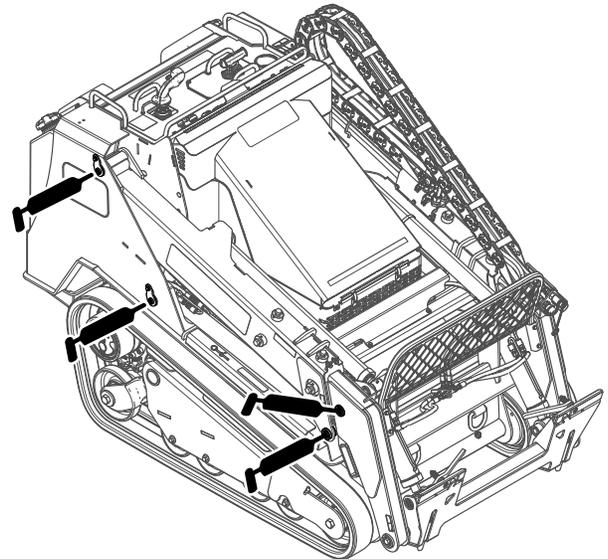
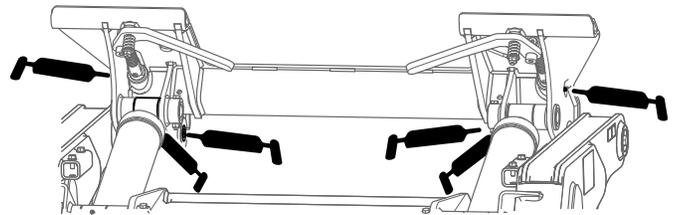
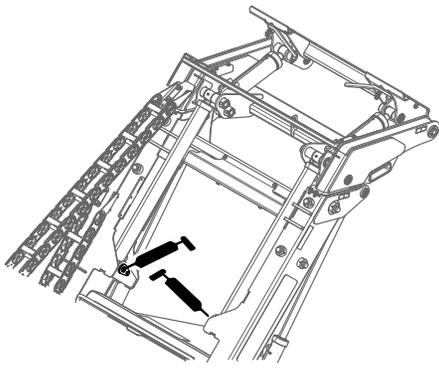

Figure 45
Figure 46
Figure 47
4. Connect a grease gun to each fitting (Figure 45, Figure 46, and Figure 47).
Note: Raise the loader arms before greasing the fittings in Figure 47.